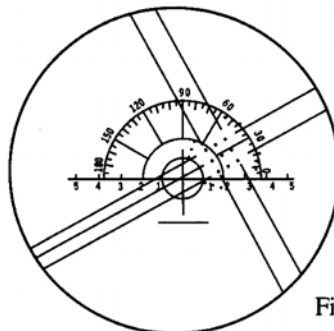

Fig.17
- To measure a prismatic lens below 5Δ , place the prismatic lens on the objective lens bearing seat and aim its optical center at the center of the optical axis. Rotate the diopter measuring handwheel to focus the lines of the (3) marker reticule clearly. The marking lines can be seen to deviate from the center of (8) eyepiece reticule. The deviating direction is the base direction of the prism lens. Rotate the astigmatism axis measuring handwheel so that the middle one of the three green marking lines passes through the center of the (8) eyepiece reticule. The value of the base angle of the prismatic lens can be read off according to the astigmatism axis measuring handwheel. The prism diopters can be estimated according to the reading on the (8) eyepiece reticule as shown in Fig. 17.
- To measure a prismatic lens higher than 5Δ , the prism compensation device will be used. Rotate the diopter measuring handwheel and turn the angle to adjust the division line on (3) marker reticule to the proper position. Then sum the readings from the (8) eyepiece reticule and the prism compensation device equals the prism diopter of the lens. The base angle can be read from the prism compensation device.